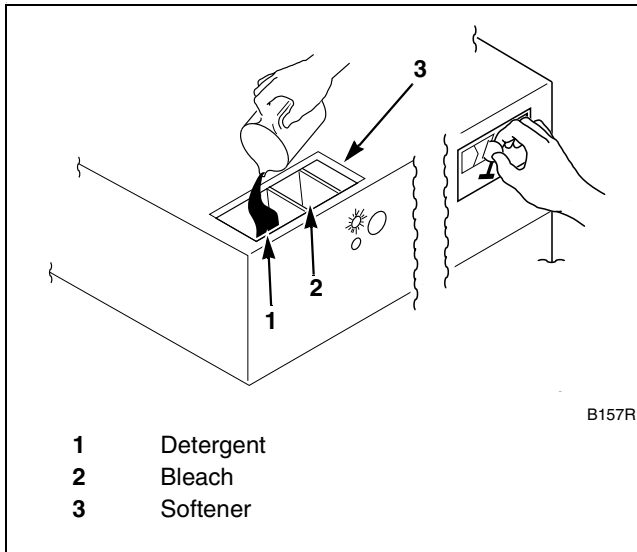

Figure 40
7. Add liquid and/or powder supplies to supply dispenser. Refer to *Figure 40*.